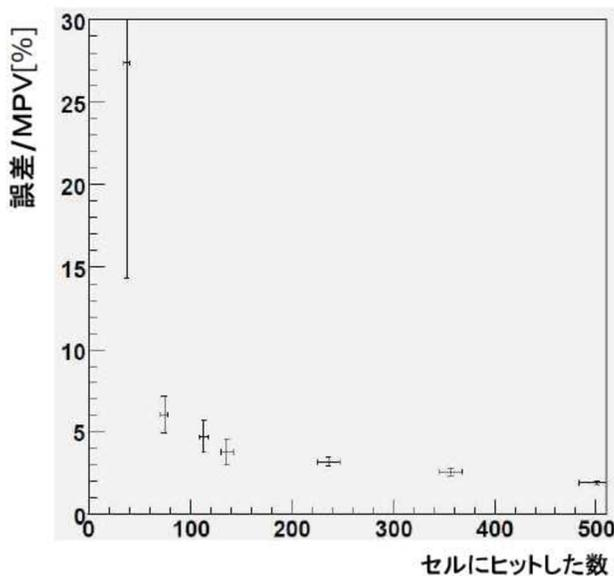

Figure 1: Uncertainty of MIP constant as a function of the number of hits on a cell.
- Need 50 MIPs per cell for the cell-wise precision of 20%. (see Fig. 1.)